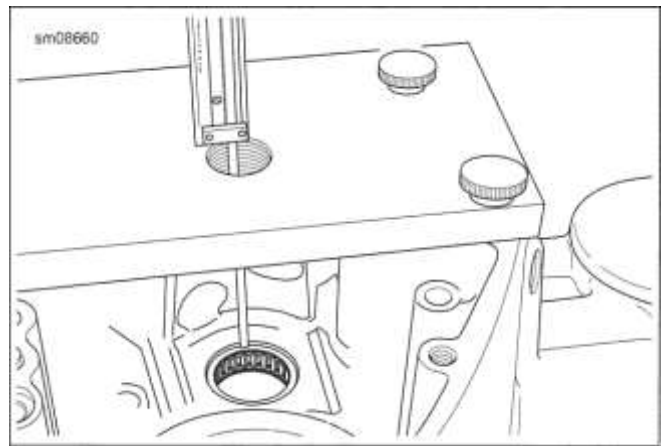

Figure 4-57. Measure from Top of Support Plate to Edge of Needle Bearing
- 3. See Figure 4-57. Turn forcing screw to press needle bearing to depth calculated earlier  $\pm 0.020$  in (0.54 mm).